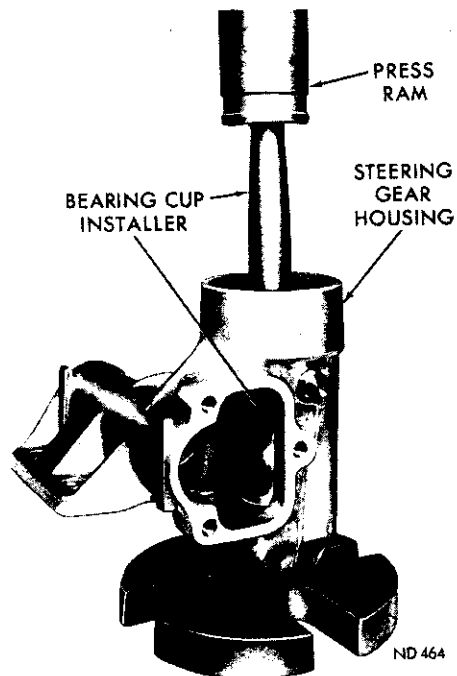

Fig. 10—Installing Wormshaft Lower Bearing Cup
(21) To install wormshaft bearing cups, position cups in housing and bearing adjuster nut. Then press in place with Tool C-3865 (Figs. 10 and 11).
(22) Install wormshaft oil seal by positioning seal in wormshaft adjuster with seal metal retainer **UP**. Drive seal into place with a suitable sleeve so it is slightly below end of bore in adjuster.
(23) Apply a coating of steering gear lubricant to all moving parts during assembly, also place lubricant on and around oil seal lips.
(24) Clamp holding fixture and housing in a vise with bearing adjuster opening upward.
(25) Place a thrust bearing in lower cup in housing.